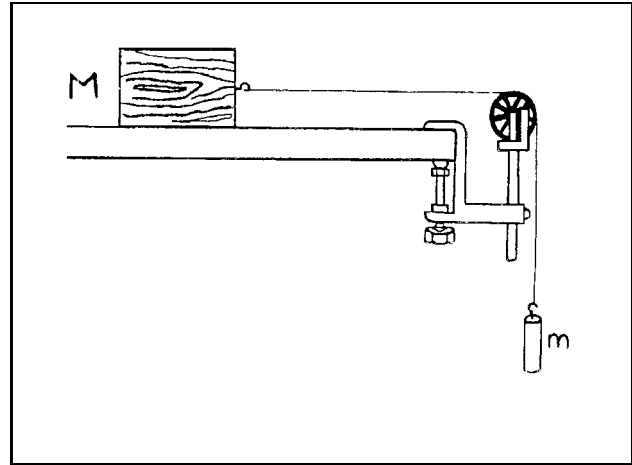
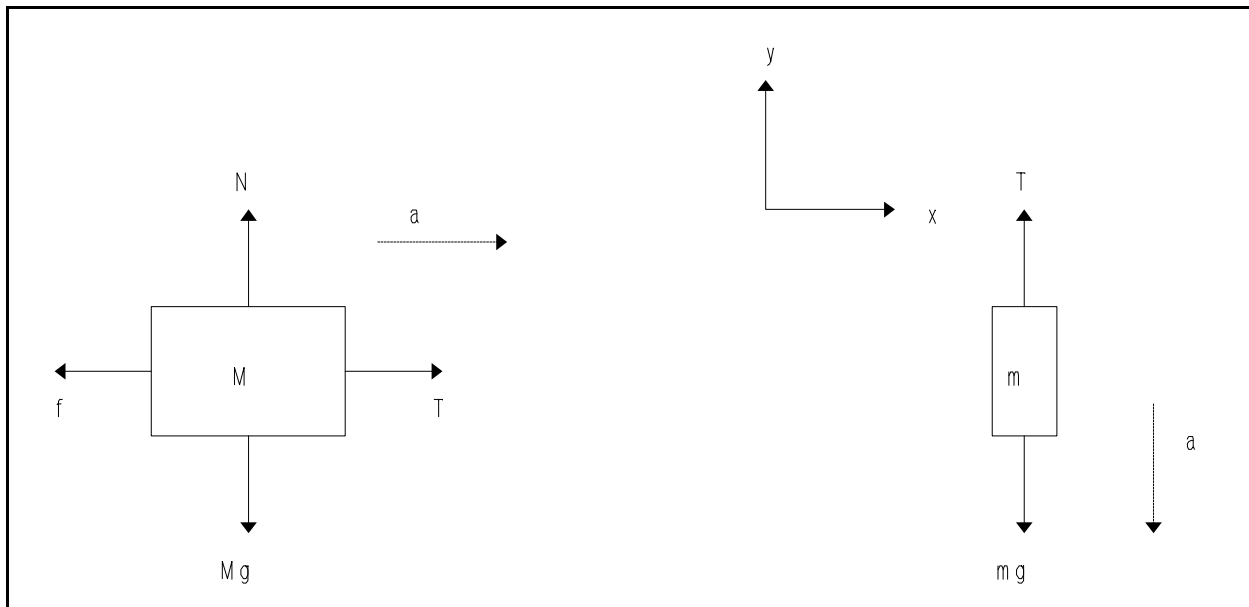

Figure 1
Figure 2. Free-body diagram for frictional force experiment.
Physics Theory: Consider the system shown in Figure 1. A block of mass M is placed on a level table and connected to a mass m by a light string running through a pulley. If mass m is released, it will start to fall and the wooden block will be pulled across the table. A free body diagram of this system is shown in Figure 2.
We begin our analysis of this system by writing equations to resolve forces in the x and y directions. Notice that the pulley in Figure 1 has the effect of redirecting the force labelled as T on M from the horizontal direction (along the $+x$ axis) to the vertical direction (positive y axis) on m .
In general, the coefficient of kinetic friction μ_k depends only upon the nature of the surfaces that are in contact with each other. From (8) we can see that μ_k for various materials may be measured by setting up a system such as that in Figure 1, measuring M and m , and measuring a after the system is released from rest.